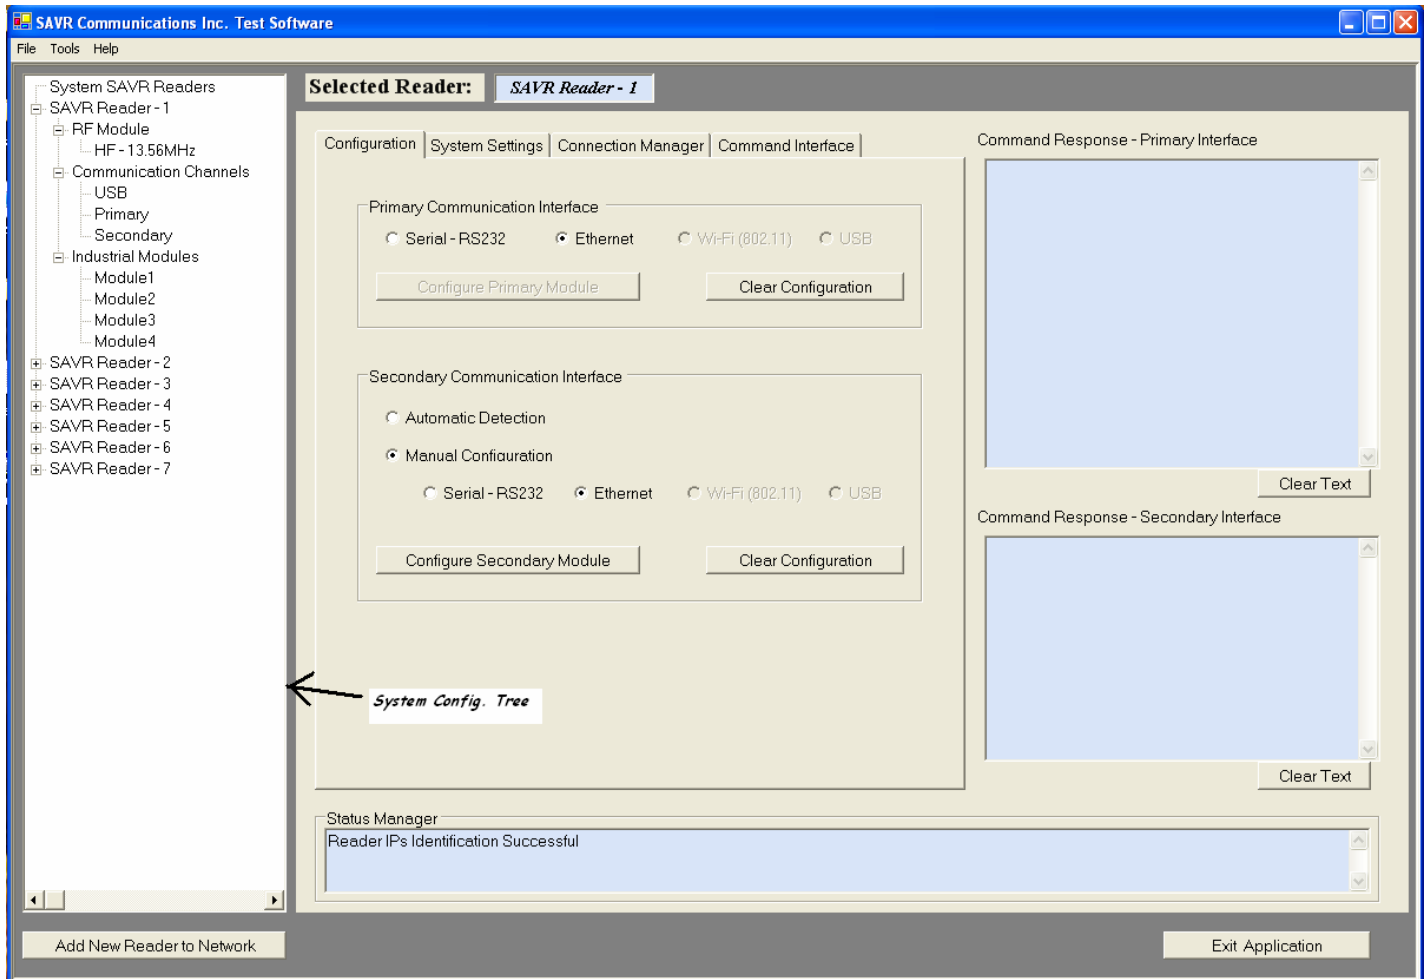
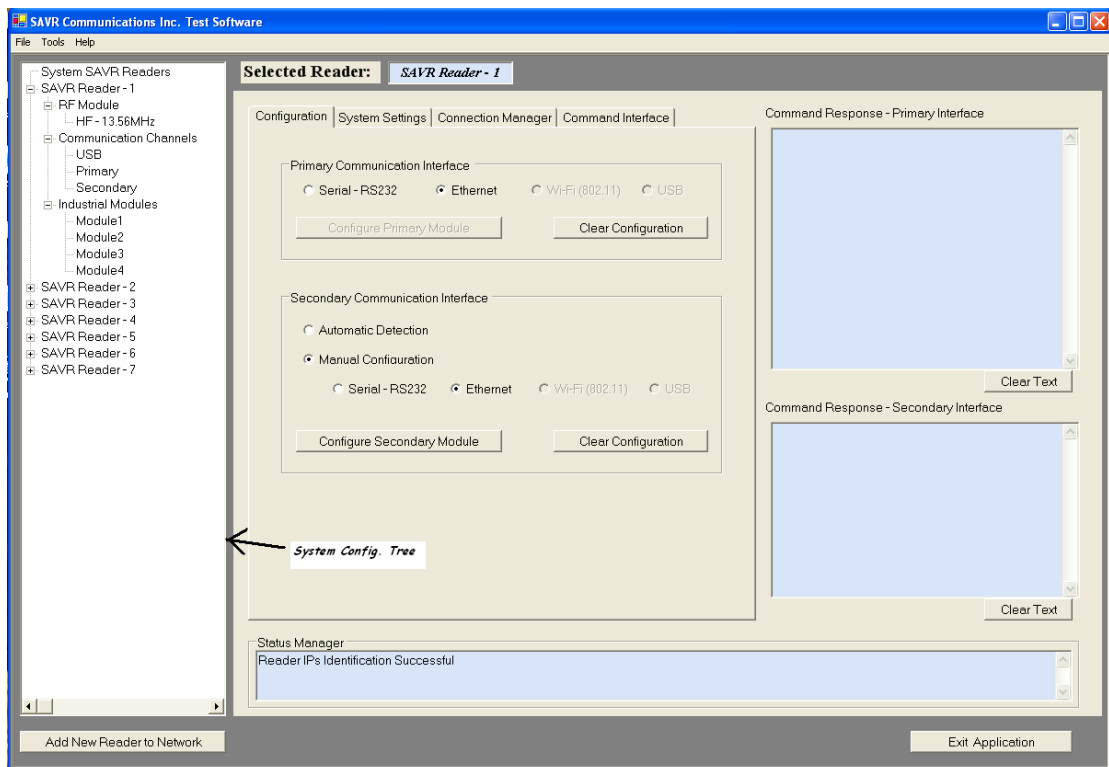

Figure 1
Figure 2
**Main Screen (Figure 1):** This is the main screen that is initially displayed when the application software is started.
### **Main Screen Contents (Figure 1)**
**“Configuration” Tab (Figure 2):** To make the initial communication to a desired reader, the primary communication channel must be selected in the configuration tab. i.e. if the reader you want to connect to has Ethernet as the primary communication channel (physically selected by the master/slave slide switch on the module), select the “Ethernet” Radio button. Once you make a connection (how to make a connection is explained later in the document), the RFID reader automatically detects and displays the secondary communication channel/module that is attached to the selected RFID reader. The configuration tab is displayed in Figure 1.